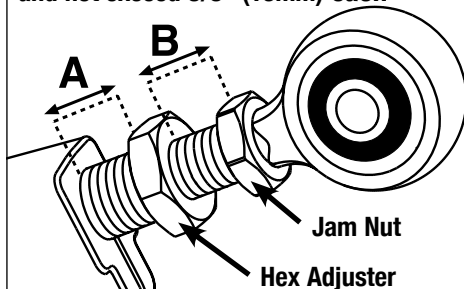

Figure 1
**WARNING: Threads visible should not exceed 5/8" (16 mm), each side, see Figure 1. Exceeding range of adjustment may cause arm to fail and void the warranty.**